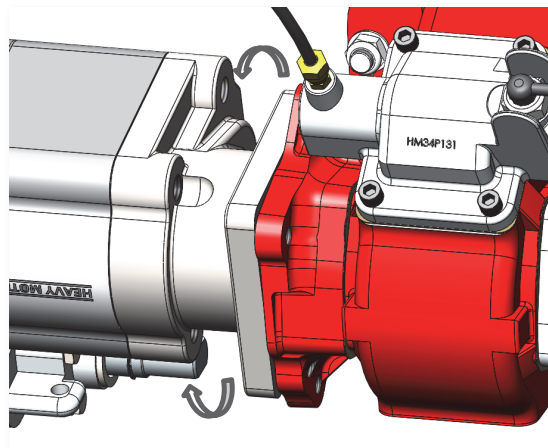

Fig. 16
3. Rotate the pump so that the holes for the bolts on the pump flange and on the PTO flange are aligned (Fig. 16).